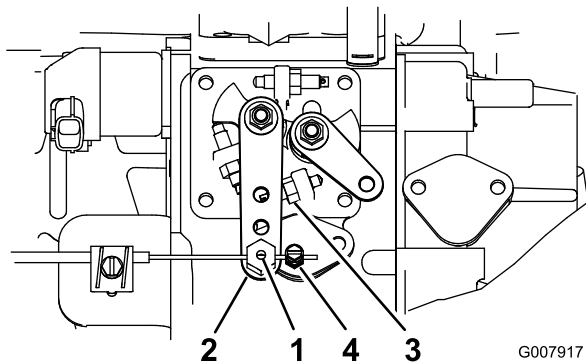

Figure 64
2. Loosen the throttle cable connector, on the throttle cable, next to the injection pump lever (Figure 64).
3. Hold the injection pump lever arm against the high idle stop (Figure 64).